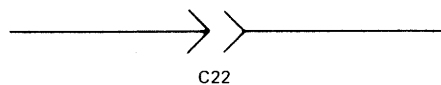

Fig. 4 — Wire Connector Code
- Wire connector identification code is shown in Figure 4. The key for the connector codes is located at the bottom of the wiring diagram.